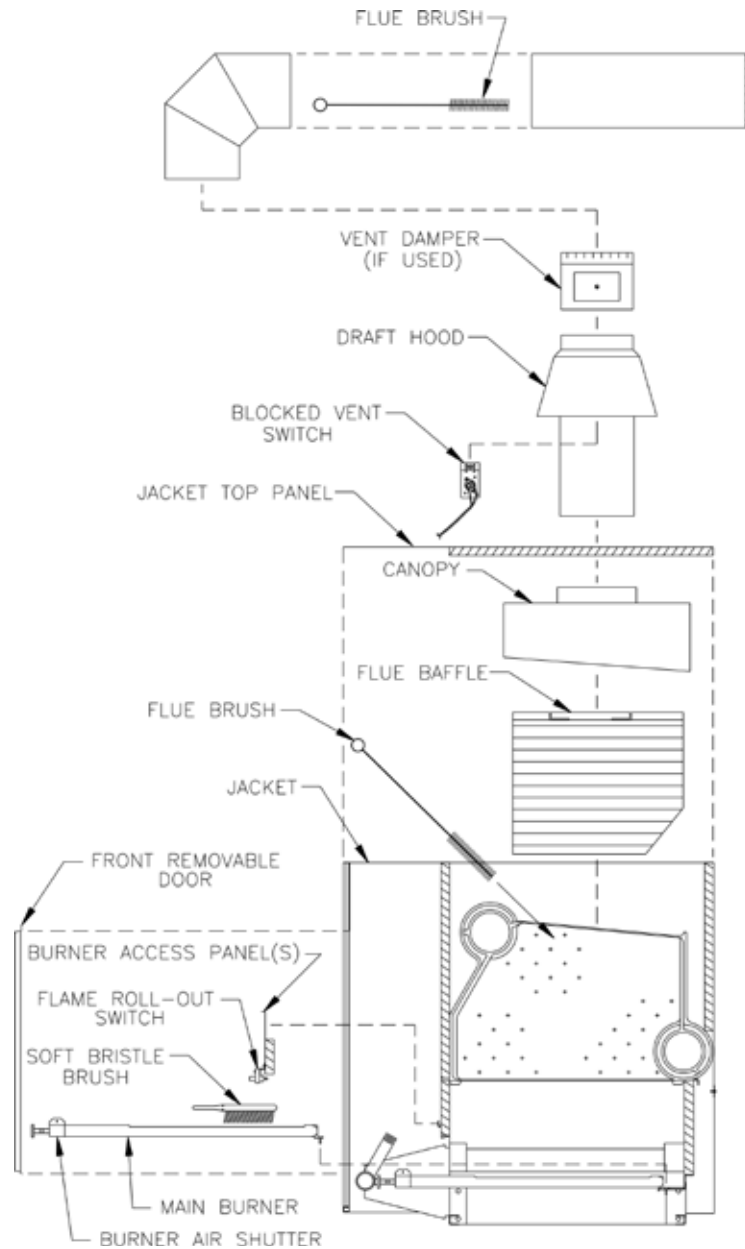

Figure 53: Boiler Flueway Cleaning
8. Check burners to be sure they do not contain foreign matter or restrictions. Clean burners with a soft bristle brush, blow any dirt out with compressed air or use a vacuum cleaner. See Figure 53.
- E. Clean Boiler Flueways.** See Figure 53.
6. Thoroughly clean flueways with flue brush, removing all scale and soot. See Figure 53.
8. Reinsert Blue Baffles into flueways. See Figure 53 for correct baffle orientation. Tabs at top of each baffle should rest on top of Flue Pins.